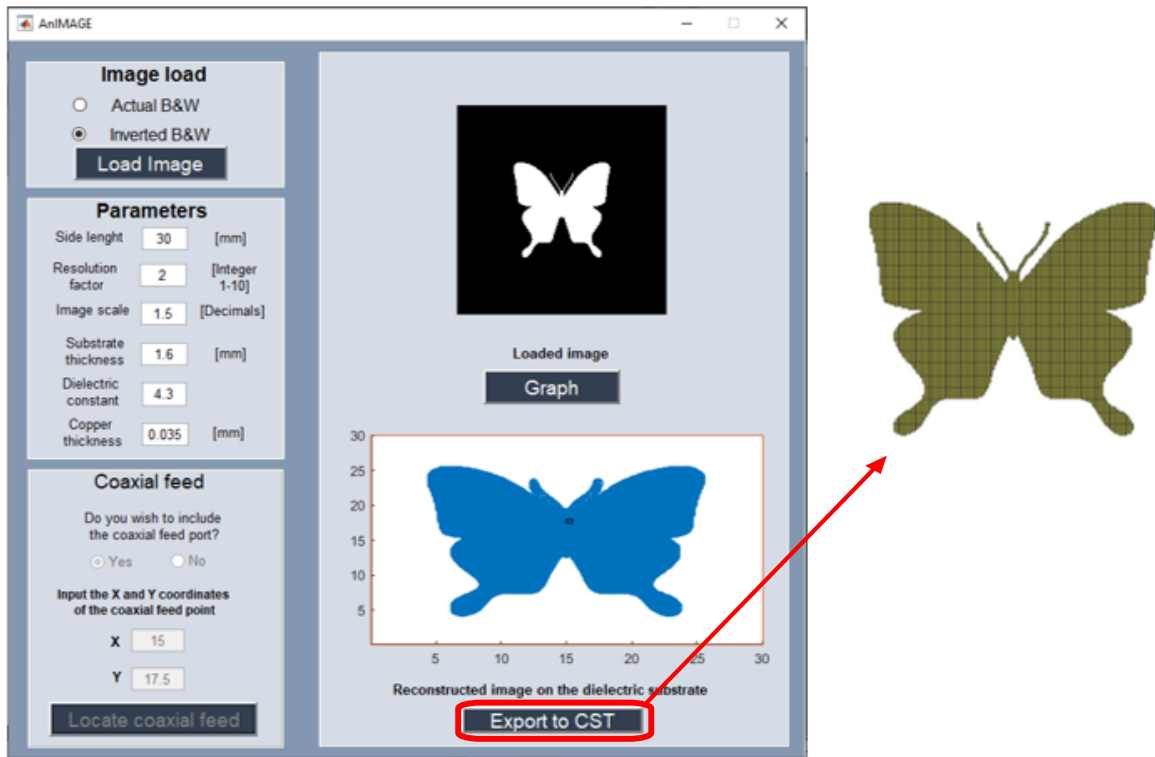

Figure 11. Reconstruction of the figure in CST Studio based on the chosen parameters.
Step 5: Then, press the **Export to CST** button as is depicted in Figure 11, a new working window will open in CST Studio and start building the figure pixel by pixel according to the chosen Resolution factor and the image scale.